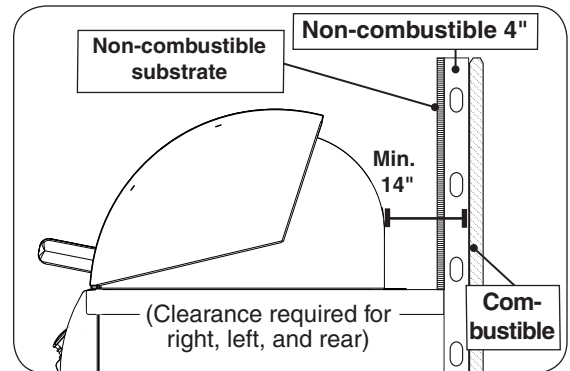

Fig. 11-3 Clearance 'B' Diagram
- The unit must have a minimum of 18" right, left, and rear clearance from any combustible wall (see Fig. 11-3).